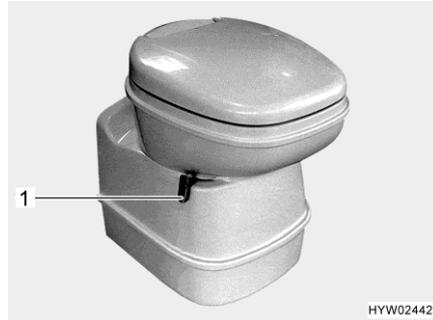
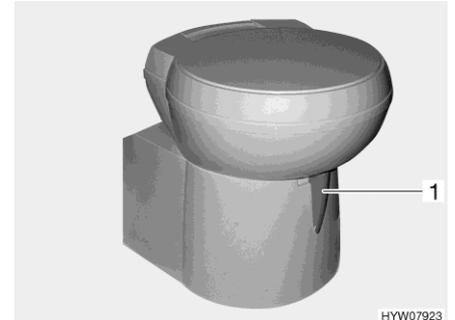

Fig. 281 Thetford toilet bowl, swivelling
Fig. 282 Thetford toilet bowl, swivelling (alternative)
- Before flushing open the sliding trap of the Thetford toilet. To do this, push the slide lever (Fig. 281,1 or Fig. 282,1) in an anticlockwise direction.